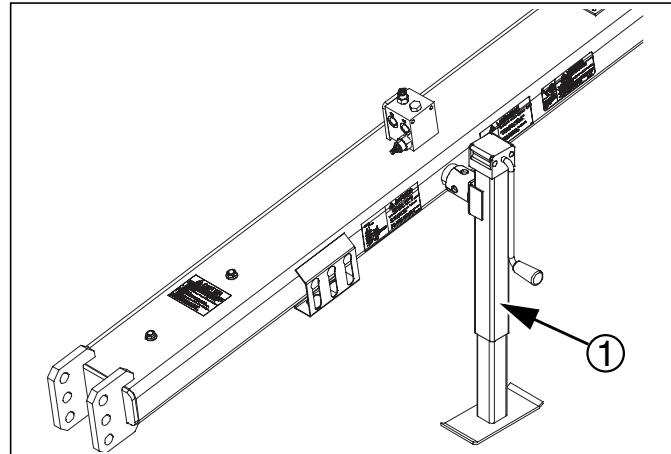
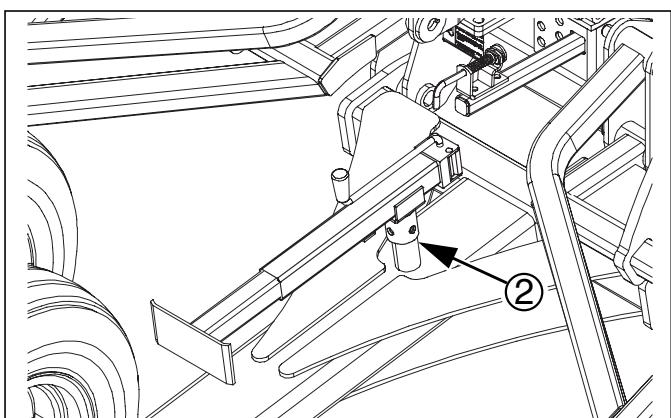

Figure 3
Figure 4
*Refer to Figure 3*
4. Use jack ① to raise and lower Ultra Chisel tongue.
*Refer to Figure 4*
5. After hitching tractor to Ultra Chisel, store jack on storage tube ② on top rear of Ultra Chisel tongue.